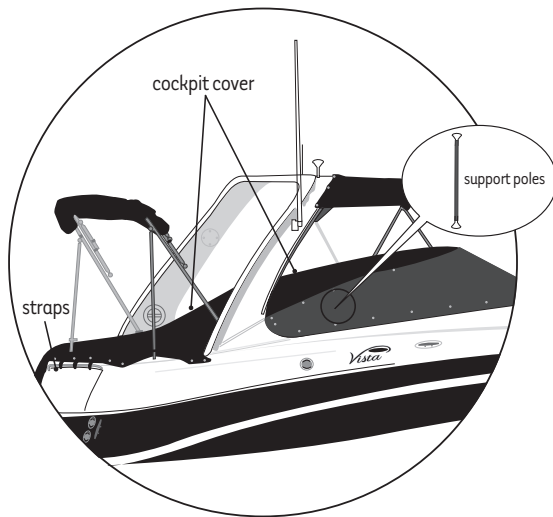

Figure O10: Cockpit Cover Installation
- 6) Attach straps to aft rail and pull to adjust. See Figure O10.